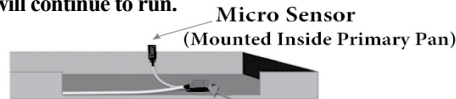
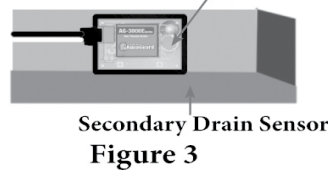

Figure 2 AG-3180E Secondary Pan Sensor (Inside Secondary Pan)
Figure 3
2. Using the double-sided tape provided with the AG-3180E, affix the mounting bracket in the lowest point of the (fig. 2) and snap the AG-3180E Secondary Pan Sensor into mounting bracket. Note: If not using a secondary drain pan, AG-3180E Secondary Pan Sensor may be mounted to the side of the HVAC unit using the double sided tape or mounting bracket (fig. 3).